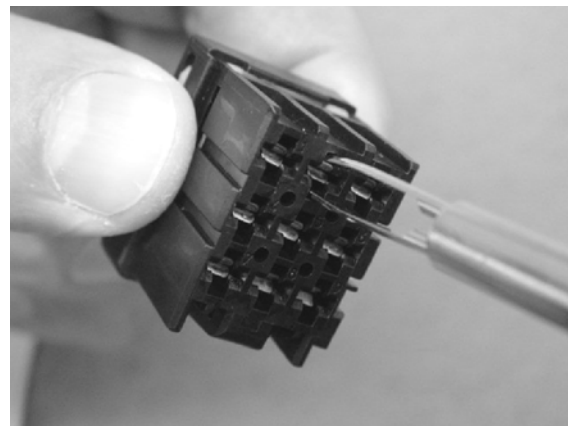

Figure 2
2. While holding the connector, grasp the wire at the rear of the housing and push forward toward the mating end to disengage the contact locking lances from the connector cavity shoulder. See Figure 2.